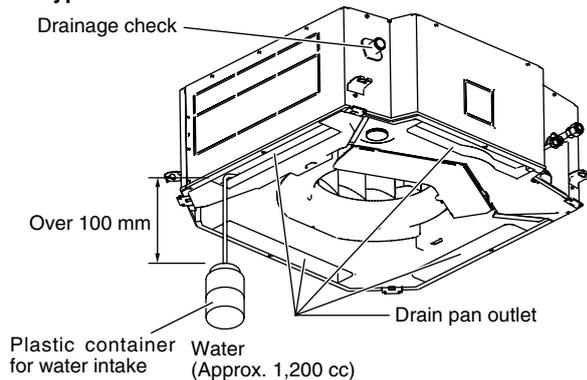

Fig. 3-12
- (1) Connect power to the power terminal board (R, S terminals) inside the electrical component box.
- (2) Slowly pour about 1,200 cc (4WK Type) of water into the drain pan to check drainage. (Fig. 3-12)